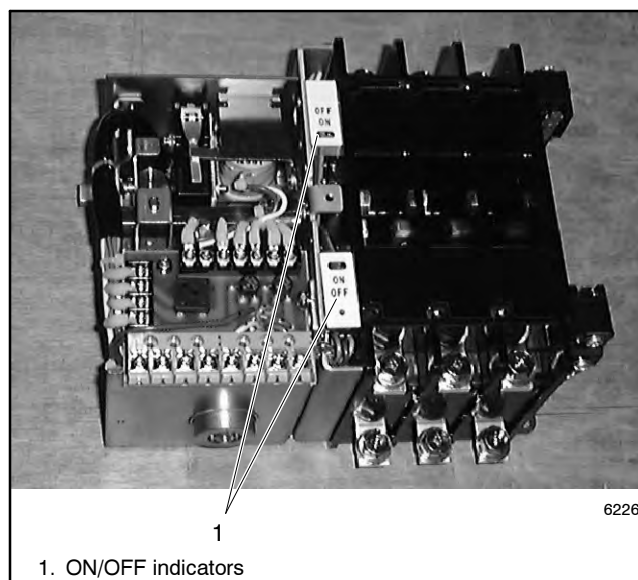

Figure 7-2 ON/OFF Indicators
2. Remove the ON/OFF indicators. Save the indicators for installation during reassembly. See Figure 7-2.